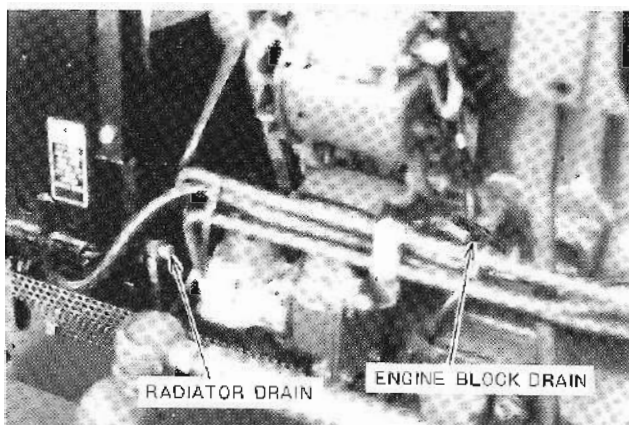

Figure 52 – Radiator Drain Valve and Engine Block Drain Valve
1. Remove the radiator cap and open the drain valve at both the radiator and the engine block. The radiator drain valve is located on the bottom left side of the radiator, Figure 52. The engine block drain valve is located on the left side of the engine. See Figure 52.